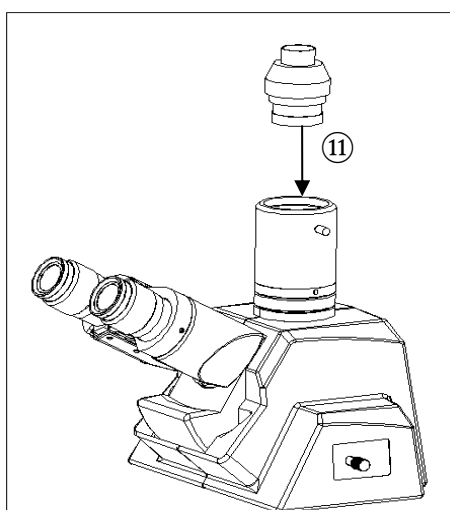

Figure 14
Then, as shown in Figure 14, the path of the camera interface in serial number ⑪ is rotated into the triple-barrel. To the appropriate position, then screw the serial number X into the position of the tight camera interface.